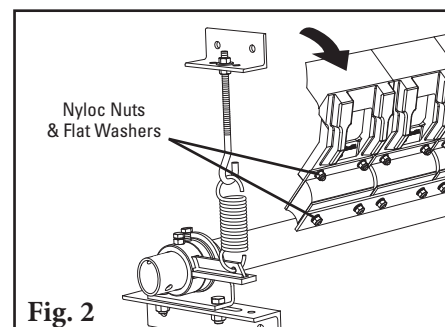

Fig. 2
- Remove the Nyloc nuts and flat washers from the bottom of each tip at the top of the cushion. Remove the tips by pulling back and downward (Fig. 2).